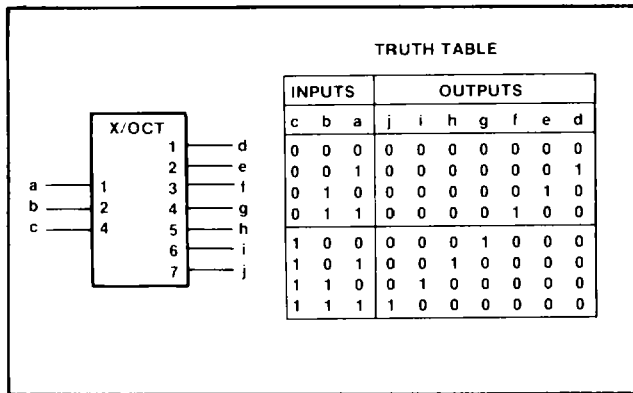

Figure 8-27. An X-Octal Code Converter
b. Replacing Y by an appropriate indication of the output code and labeling the outputs with characters that refer to this code as in Figure 8-27.